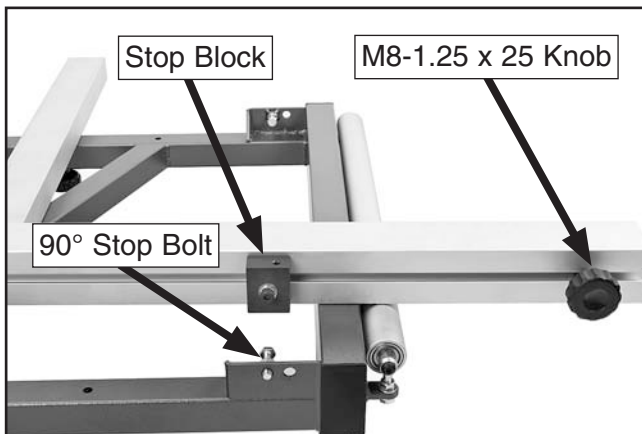

Figure 48. Front end crosscut T-slot components.
- a) Insert and align an M8-1.25 T-nut with the hole in the slot that is farthest from the saw blade, then thread (1) M8-1.25 x 25 knob with the nylon end through the T-nut and into the fence hole, as shown in Figure 48. This will secure the fence extension in place when fully tightened.
- b) Align an M8-1.25 T-nut with the 90° stop bolt shown in Figure 48, insert (1) M8-1.25 x 35 cap screw with a 8mm lock washer through the stop block, then thread the cap screw into the T-nut.